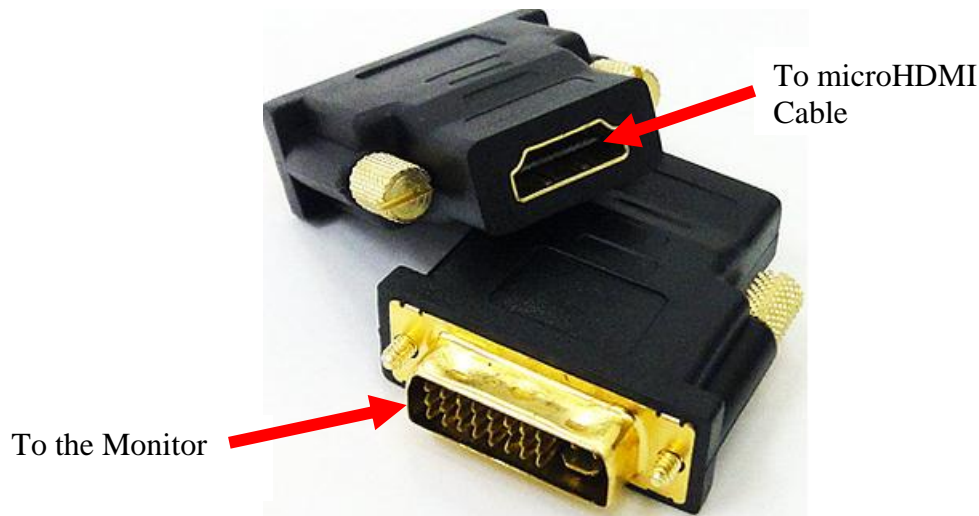

Figure 8. DVI-D to HDMI Adapter
2. If you have a DVI-D monitor you must use a DVI-D to HDMI adapter in addition to your HDMI cable. An example is shown in **Figure 8** below from two perspectives. If you use this configuration, you will not have audio support.